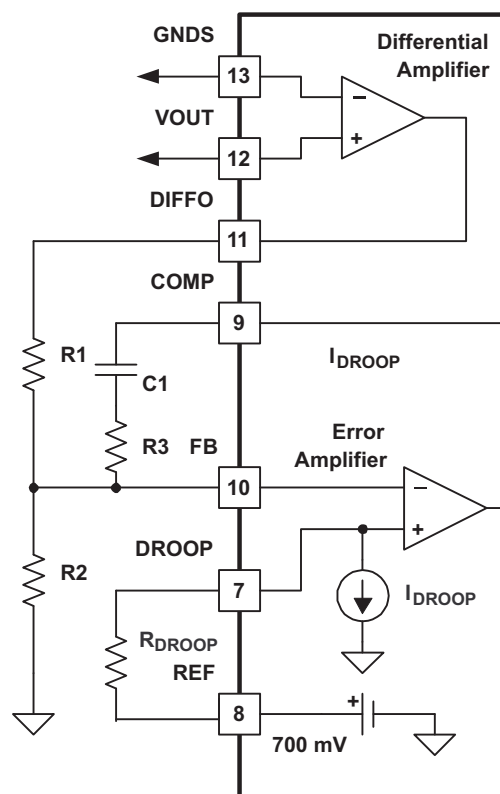

Figure 5.
The converter output voltage is programmed by the R1/R2 divider from the output of the differential amplifier. The center point of the divider is connected to the inverting output of the error amplifier (FB), as shown in Figure 5.